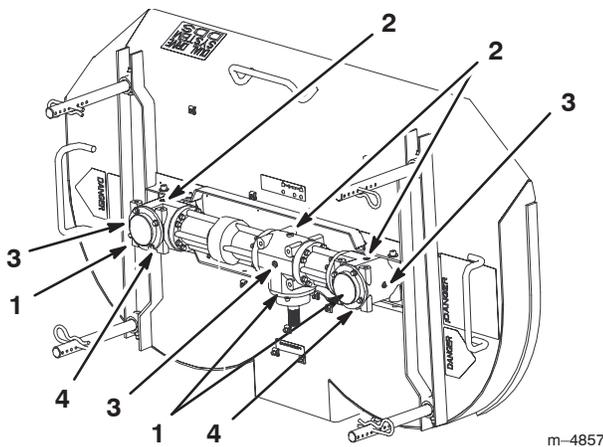

Figure 75
3. With deck raised, remove plug on the bottom side of the gearbox. Let fluid fully drain into a pan. (Fig. 75).
4. Reinstall the bottom plug into the gearbox. Use pipe thread sealant if needed (Fig. 75).
5. Remove the top plug to fill gearbox (Fig. 75).
7. Reinstall the top plug into the gearbox (Fig. 75).
3. Remove plug on the side of the gearbox. The fluid level must be up to side hole in gearbox (Fig. 75).
4. If needed, fill fluid into top hole until it runs out the side hole in gearbox. It is full when it runs out the side hole (Fig. 75).
5. Reinstall the top and side plugs into gearbox using pipe sealant (Fig. 75).